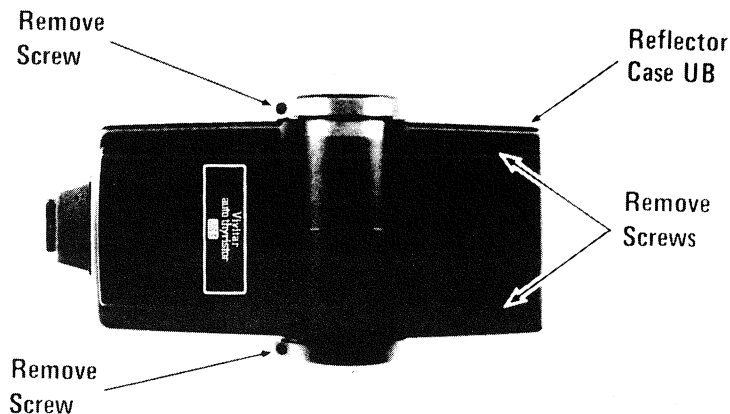

Figure 3-2. Reflector Case Disassembly
- B. Turn reflector case straight up (90° position), remove screws and lift off reflector case UB. Figure 3.2.